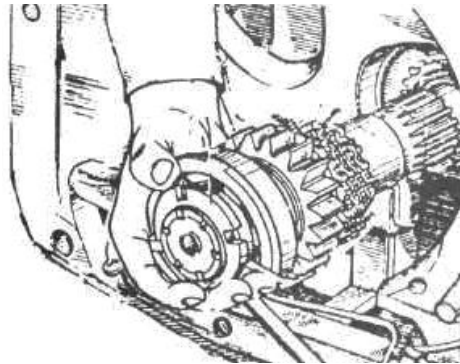

Figure 4.84
f) knock out shaft with bearings, bushing and nut, as shown in figure 4.84;